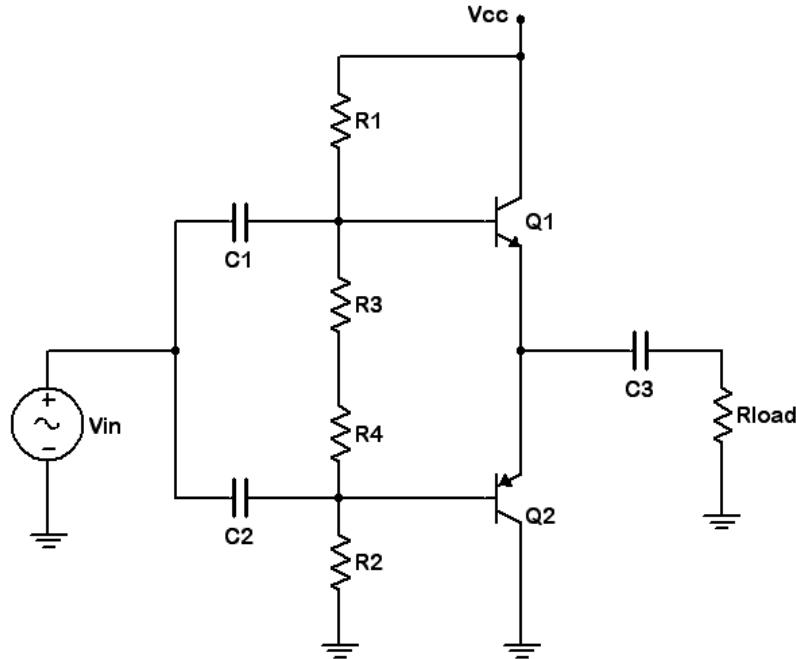

Figure 1
1. Consider the circuit of Figure 1 using $V_{cc} = 6$ volts, $R_1 = R_2 = 2.2 \text{ k}\Omega$, $R_3 = R_4 = 220 \Omega$, $R_{load} = 100 \Omega$, $C_1 = C_2 = 10 \mu\text{F}$ and $C_3 = 100 \mu\text{F}$. Ideally this circuit will produce a compliance of just under 6 volts peak-peak.
2. Build the circuit of Figure 1 using $V_{cc} = 6$ volts, $R_1 = R_2 = 2.2 \text{ k}\Omega$, $R_3 = R_4 = 220 \Omega$, $R_{load} = 100\Omega$, $C_1 = C_2 = 10 \mu\text{F}$ and $C_3 = 100 \mu\text{F}$. Disconnect the signal source and insert an ammeter into the collector of Q1. Record I_{CQ} in Table 1.